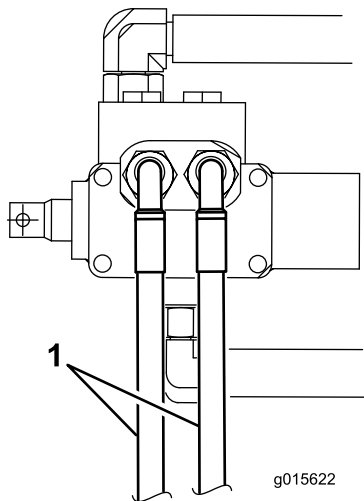

Figure 7
Note: Make sure the (2) hydraulic hoses are oriented so they point straight out the left side of the control valve, as shown in Figure 7. This will eliminate the chance of the hoses interfering with the fuel tank.